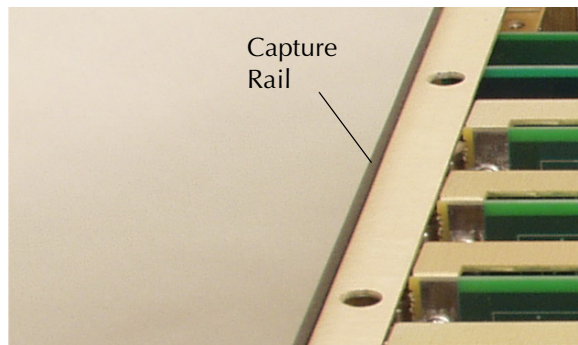

Figure 5.3 F6300 Circuit Boards
4. Remove the cover to expose the circuit boards and other components inside the instrument (Figure 5.3).